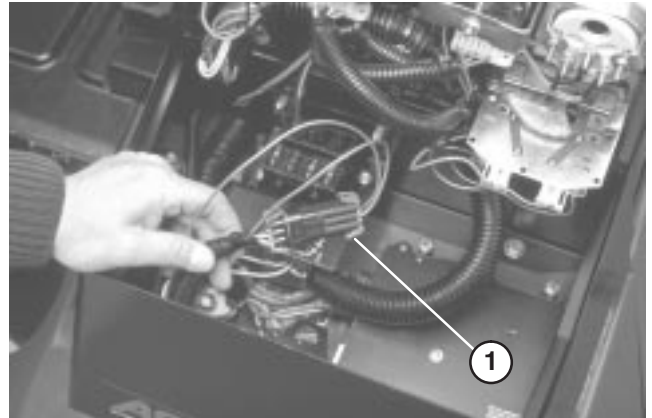

Figure 26
2. Open control panel cover. Locate wire harness and loopback connector. Carefully unplug loopback connector from harness connector (Fig. 26).